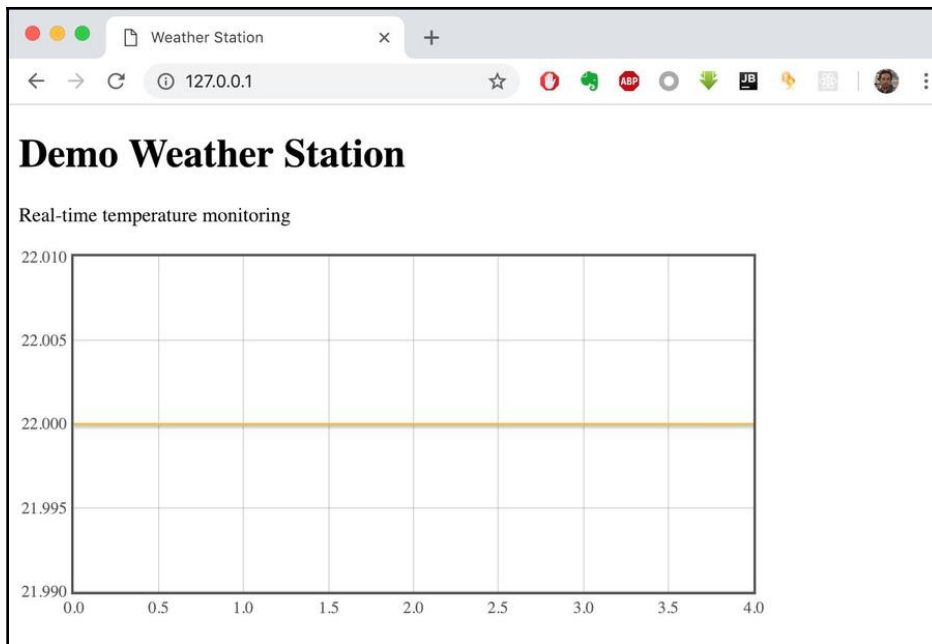

Figure 6.9: The program output of temperature data in a browser
4. Now open a browser and navigate to the IP address of the Node.js application. You should see the data visualization of the temperature data, as shown in *Figure 6.9*:
The browser receives temperature sensor information from the `weatherfeeder` server. *Figure 6.9* shows a graphical web interface where the  $x$  axis represents the data counter, and the  $y$  axis represents the temperature value. According to the figure, the temperature value equals 22 °C.